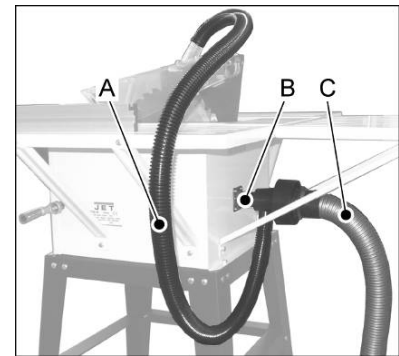

Fig 8
Attach the connecting hose (A, Fig 8) and the Y-piece (B) as shown.